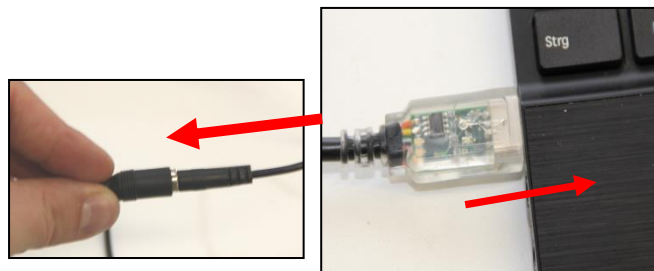

Fig. 11
4. Connect the power connector to the power plug, tighten the screwed ring and put the USB connector to a spare USB port of the computer (fig. 11). If you are using Windows XP® or Vista® it might be necessary that you first install all service packs from Microsoft and the adequate USB drivers from the BlueInOne data carrier. Contact your responsible administrator if the drivers can't be found or installed. If you are using Windows7™ all needed drivers should be included already.
3. The serial query can be performed by connecting the corresponding cables in accordance with fig. 11 to socket **A**.